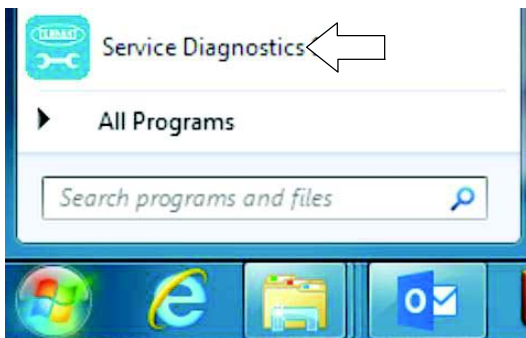
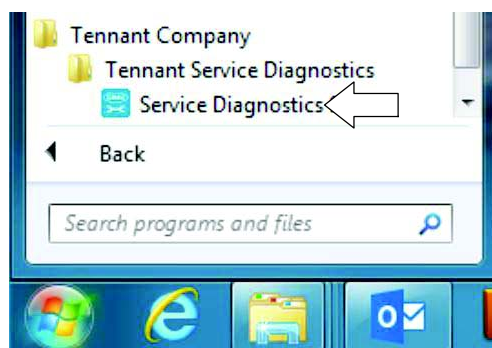

FIG. 16
FIG. 17
1. Access the software through either the desktop icon or the Start Menu. The software application is titled “**Service Diagnostics**”. (Fig. 15/Fig. 16/Fig. 17)